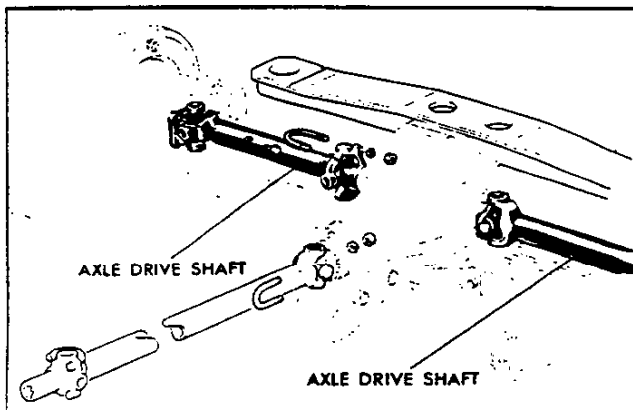

Fig. 36—Axle Driveshafts
**AXLE DRIVESHAFTS—Figure 36**